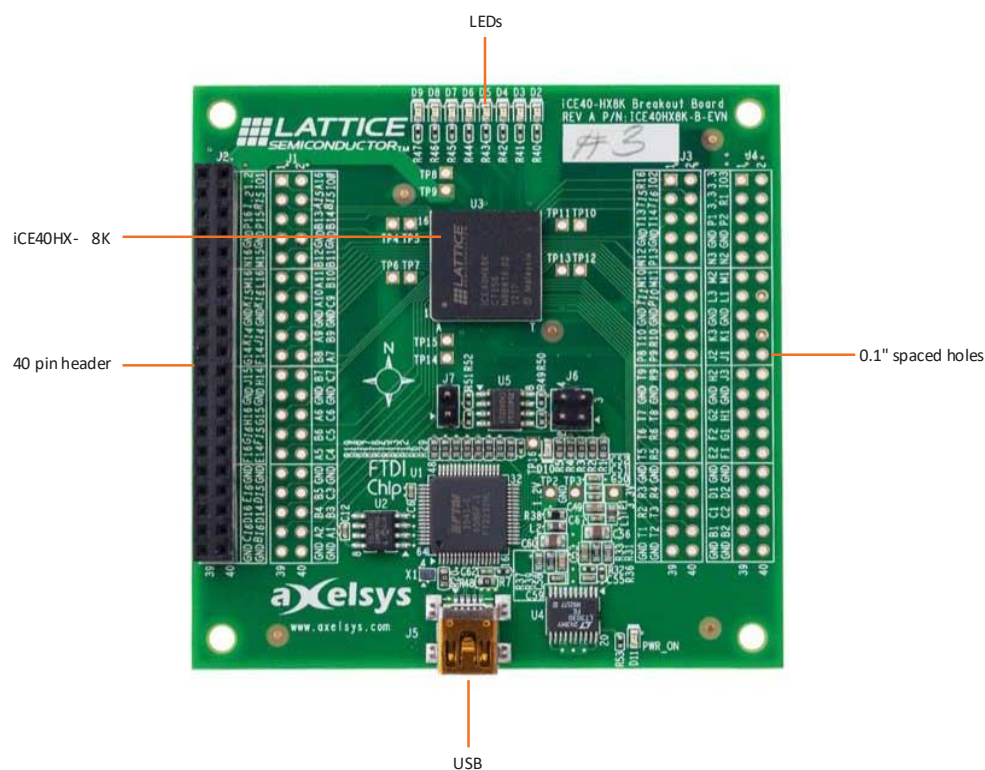

Figure 2.1. Top Side of the iCE40HX-8K Evaluation Board
- USB connector Cable – A mini B USB cable for programming the SRAM fabric of the iCE40HX-8K or the onboard SPI flash. The USB cable also powers the iCE40HX-8K evaluation board. Figure 2.1 shows the top side of the iCE40HX-8K Evaluation Board indicating the specific features that are designed on the board.